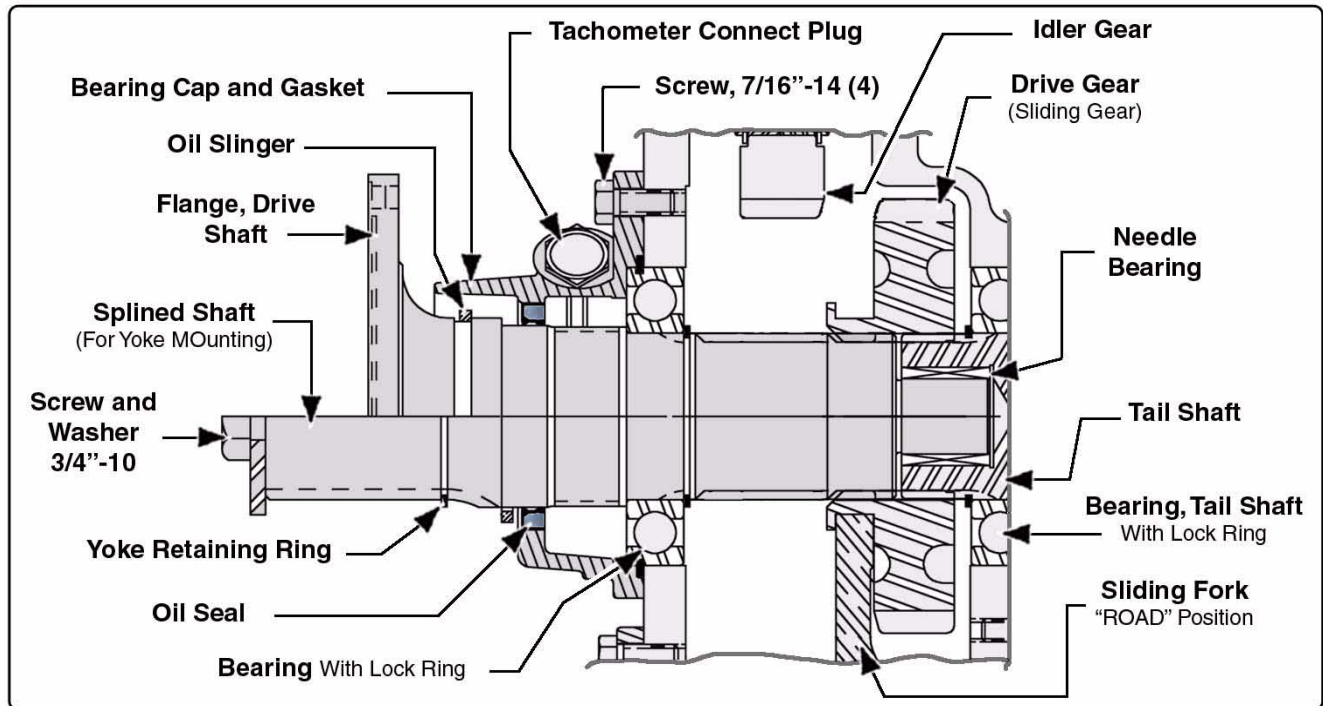

Figure 6c-6: Drive (Sliding Gear) Shaft Assembly
4. For the splined drive shaft with yoke (See Figure 6c-6: “Drive (Sliding Gear) Shaft Assembly” on page 95.):
(See Figure 6c-6: "Drive (Sliding Gear) Shaft Assembly.")